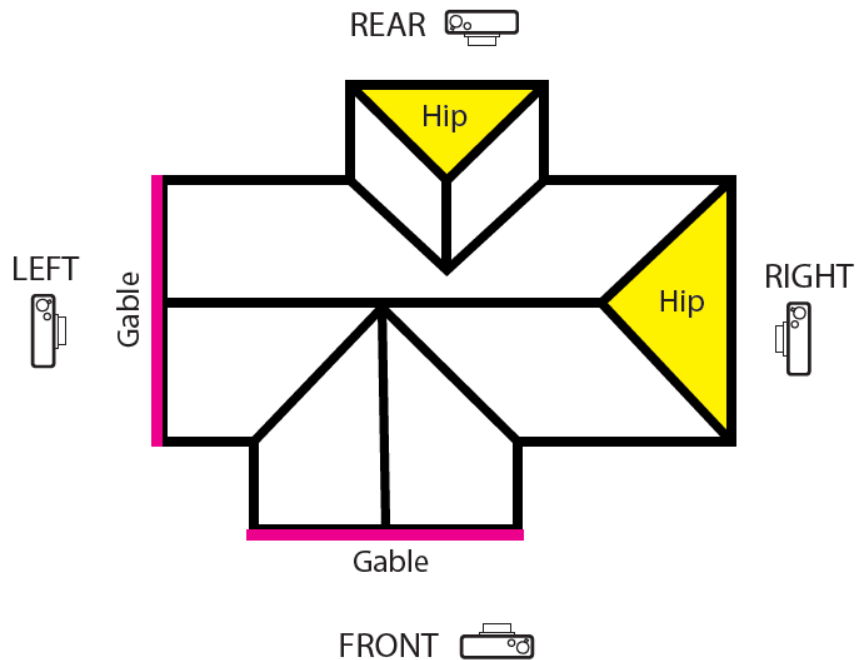

Figure 0-1. Minimum photograph requirement and locations (Front, Rear, Left and Right).
- Must show 4 different sections of the roof (Front, Rear, Left and Right). See Fig. 0-1.